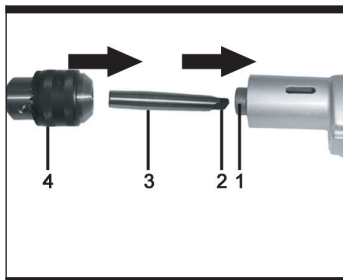

Fig 3
2. Installing the chuck (See fig3)